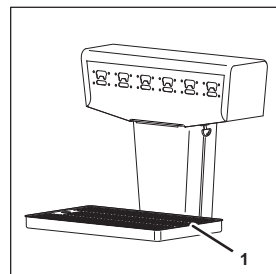

Fig. 9
3. Check that the drip tray (Fig. 9/1) is positioned properly on the unit.